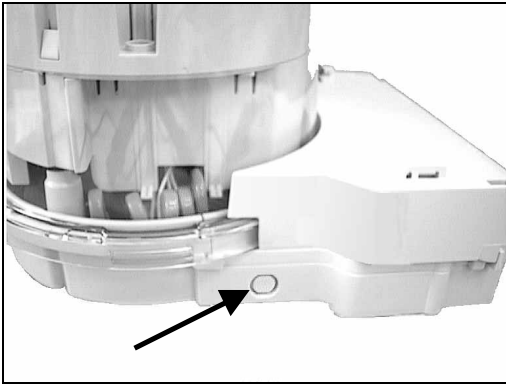

Figure 10: Locating knockout for cable assembly on A-Base meters
1. With the kV™ Meter base facing you, locate the knockout on the left side of the base (see Figure 10) and remove it by tapping it with a punch. Make sure the hole is clean and the knockout parts are removed.